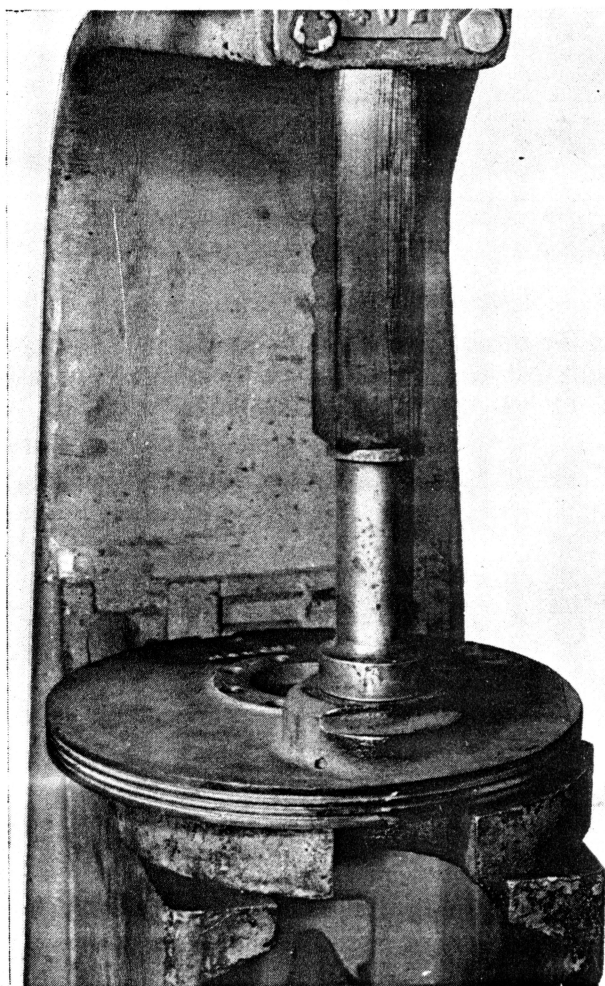

Fig. 18
6. Oil seals may be pressed from disc, (Refer to Fig. 18) and from bearing retainer.
1. Press oil seal into disc (Refer to Fig. 18) with lip of seal toward bearing bore.